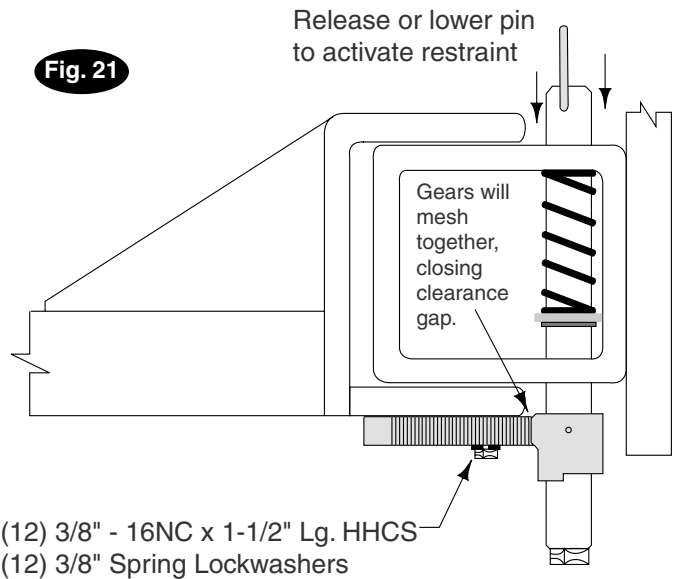
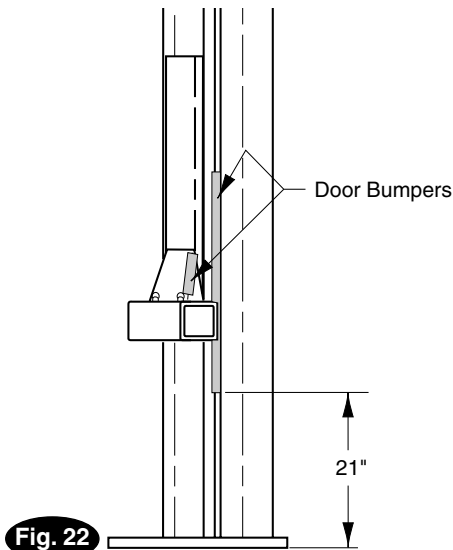

Fig. 21
Fig. 22
12. Electrical: Have a certified electrician run appropriate power supply to motor, Fig. 21 & 22. Size wire for 20 amp circuit. See Motor Operating Data Table.
IMPORTANT: Use separate circuit for each power unit. Protect each circuit with time delay fuse or circuit breaker. For single phase 208-230V, use 20 amp fuse. Three phase 208-240V, use 20 amp fuse. For three phase 400V and above, use 10 amp fuse. For wiring see Fig. 21 & Fig. 22. All wiring must comply with NEC and all local electrical codes.
After installing arm pin, torque the three Restraint Gear bolts to 30-34 Ft. Lbs.. Let the Gear Block down allowing the teeth of the Restraint Gear and Gear Block to mesh together, Fig. 21.
1) Press bumpers on column edge and carriage, Fig. 22.